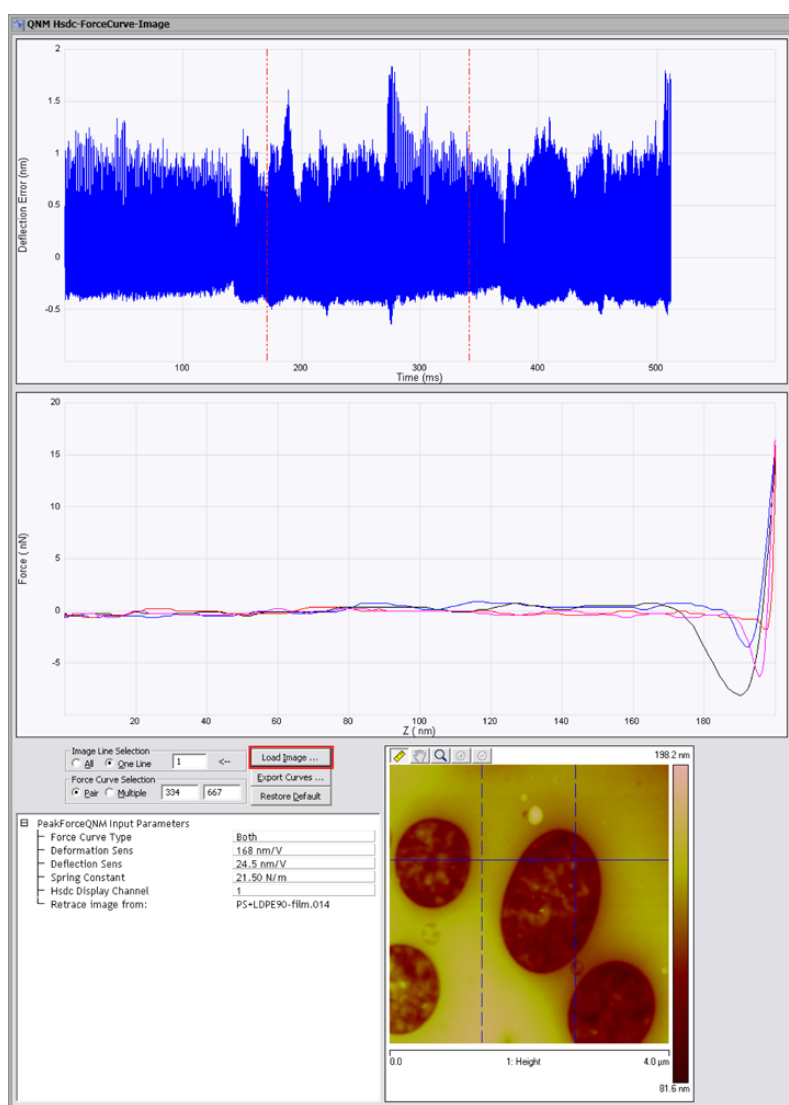

Figure 8.1a: The **QNM HsdC Force Curve Image** window.
3.  Click the QNM-HSDC Force Curve-Image icon to open the **QNM HsdC Force Curve-Image** window, shown in Figure 8.1a.
4. Click the **Load Image** button, circled in Figure 8.1a, and select the image file associated with your high speed data capture file.